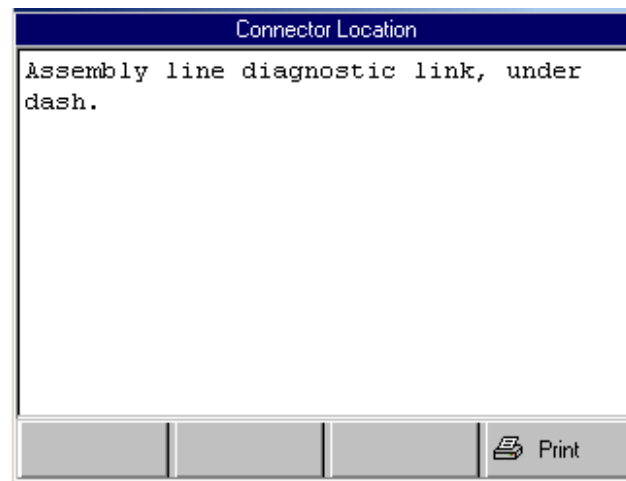

Figure 7.10: Connector Location Screen
- Select **Connector Location** and press the **ENTER** key to view a description of where the vehicle's data link connector (DLC) is located. This displays the Connector Location screen (see figure 7.10).